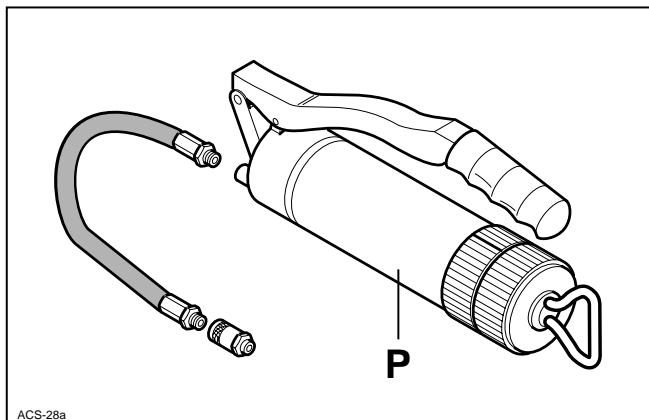

Fig. 5.4
- To inject grease, use the grease gun P provided (Fig.5.4); each pump of the gun corresponds to 0.7 cm³ of grease (See table in Sec. 5.6).